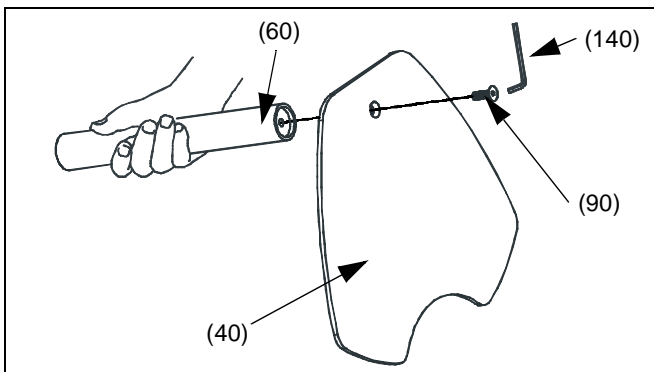

Figure 2: Assemble Pole to Base
1. Assemble pole (60) to base (40) using one 3/8-16 x 1" FHCS (90). (see Figure 2)
- Assemble pole (50) to base (40) using one 3/8-16 x 1" FHCS (90). (see Figure 2)